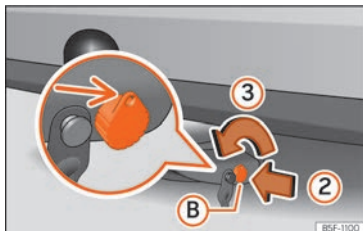

Fig. 260 Releasing the lock.
- Insert key (B) into the lock in the direction of arrow (2) » Fig. 260.
- Turn the key in the direction of arrow (3) until the part of the key with the holes is facing upwards.